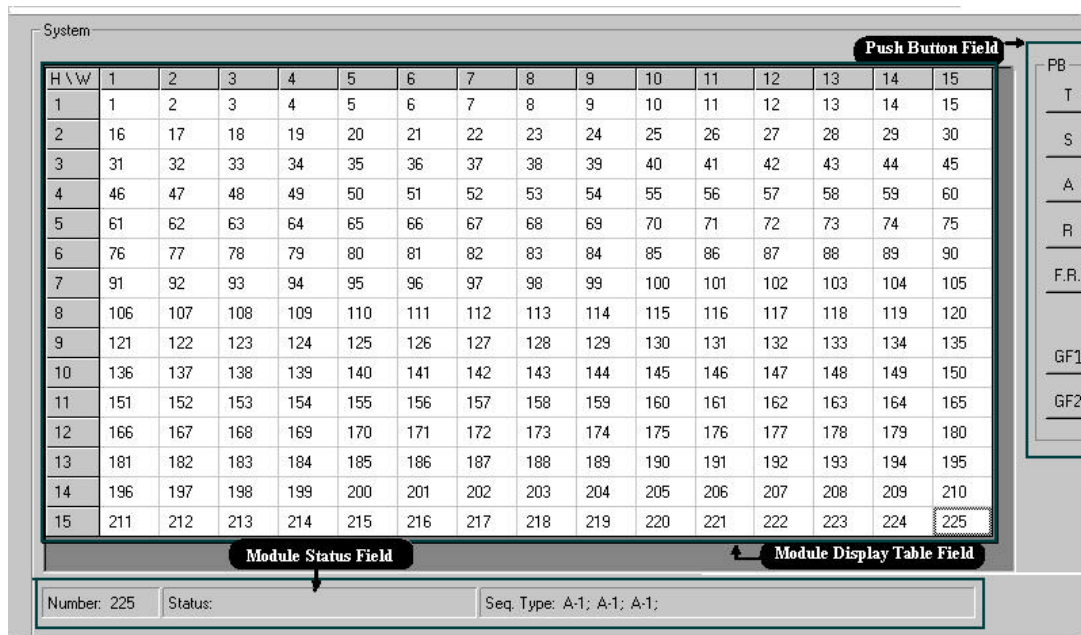

Figure 4-7 System Display Field
*Example: Figure 4-7 System Display Field* shows System Display area with 225 logical modules. The number in each cell is its logical module addresses. When the logical module cell number 225 is selected, its module number, its status, and sequence types of its channels display on the Module Status area.